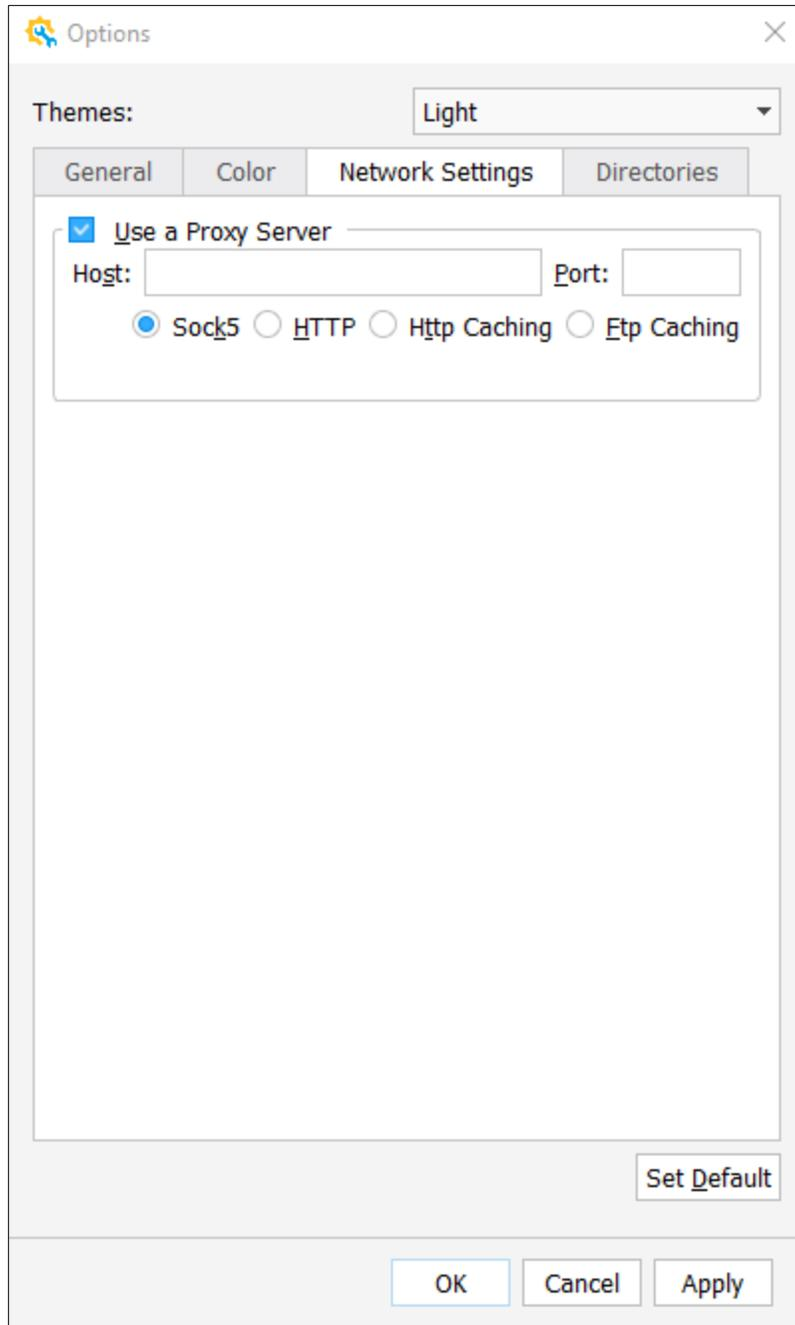

Figure 2.85. Network Settings
- Network Settings (Figure 2.85)